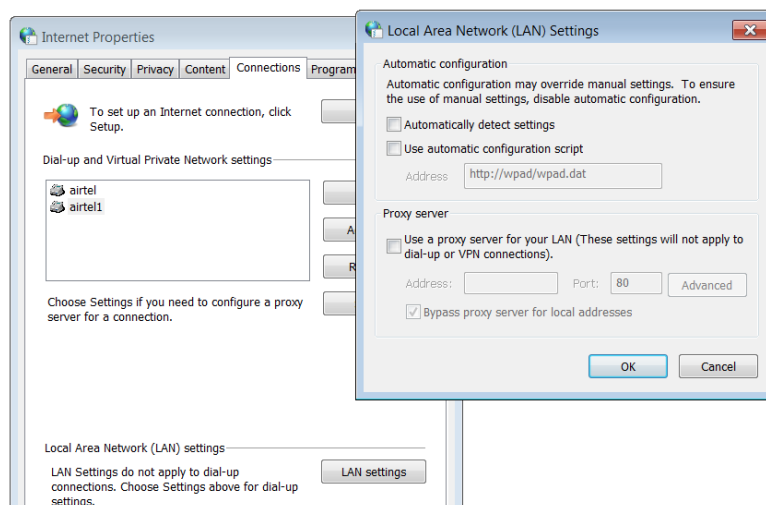

Figure 17: Typical Browser Proxy Settings
7. Click on the Properties button. The Internet Protocol (TCP/IP) Properties window appears, as shown in Figure 17.